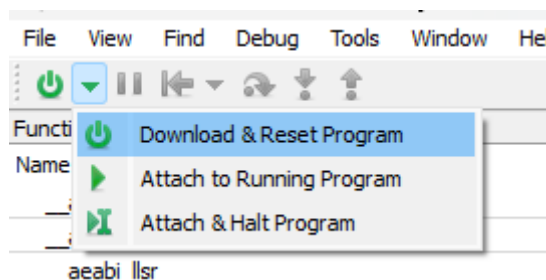

Figure 6-4. Power Icon Dropdown
7. In the toolbar menu, different options are available to connect with the core. Click on the dropdown of power icon shown in Figure 6-4.